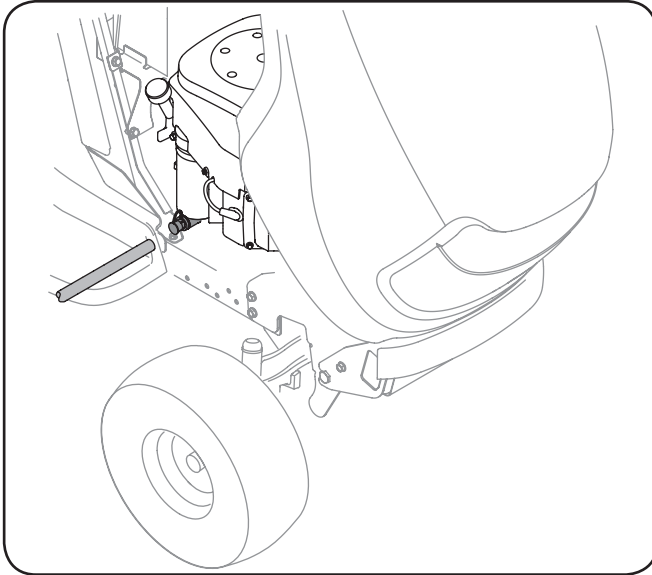

Figure 6-1
- Pop open the protective cap on the end of the oil drain valve to expose the drain port. See Figure 6-1